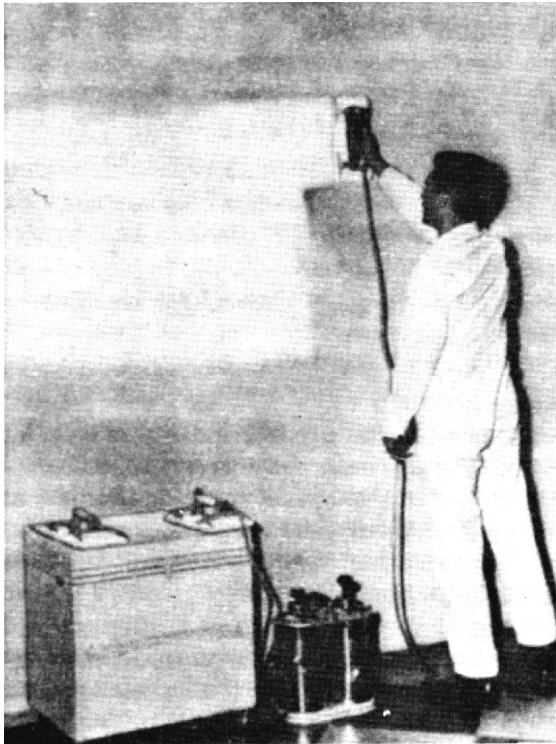

Figure 10. Wall Washing Machine.
(3) *Washing Walls with machine.* Only trained personnel should use a wall washing machine. The use of this machine greatly increases production. Proceed in the same manner as washing by hand. Full details are contained in paragraph 6.2.25 Wall Washing—Hand Method, and paragraph 6.2.27 Wall Washing—Machine Method. Figure 10 shows wall washing machine in operation.